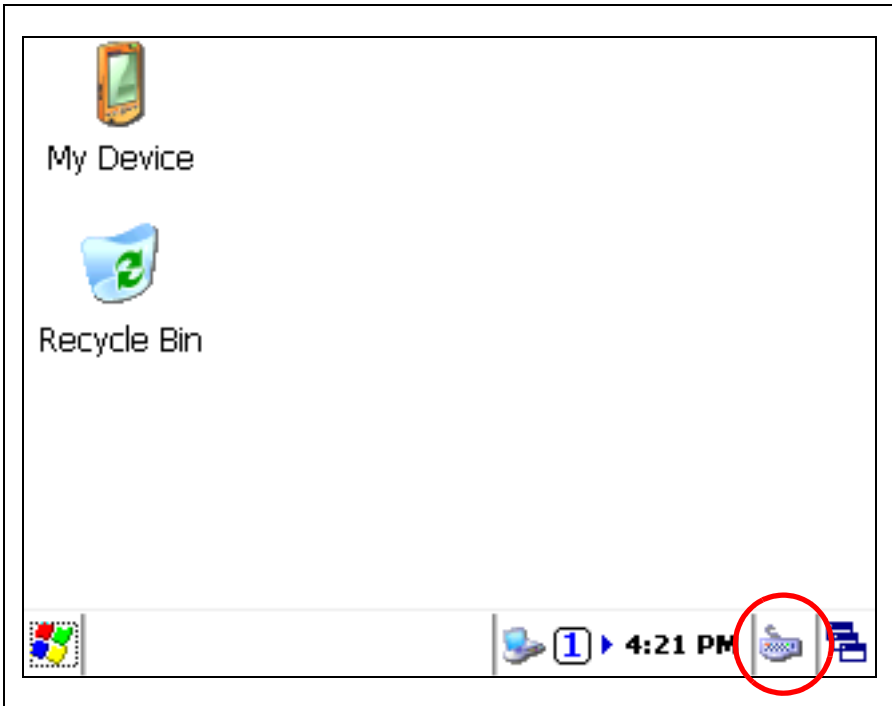

Figure 3.6 The keyboard icon
1. Tap once on the keyboard icon that is located in the Windows taskbar. See figure 3.6
1. Tap once on the keyboard icon. See figure 3.6